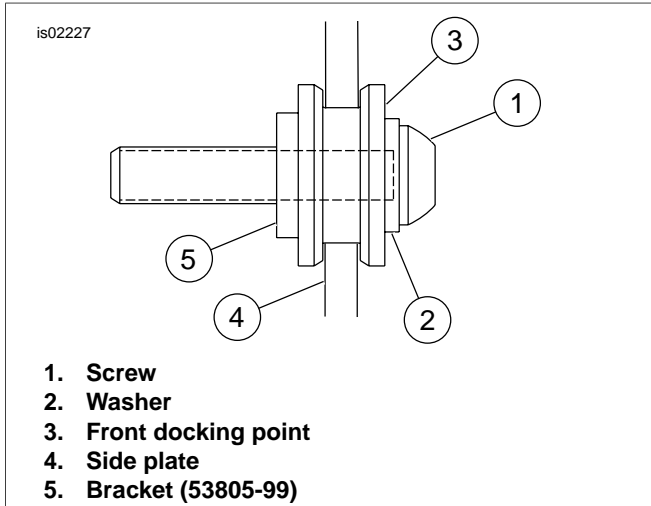

Figure 3. Side Plate and Front Docking Point Fully Engaged
2. See Figure 3. While standing behind the motorcycle, place the front backrest notches into the front docking points. Make sure the notches seat fully into the front docking points.
The front and rear docking points must be fully engaged. See Figures 3 through 6 for correct engagement. If docking points